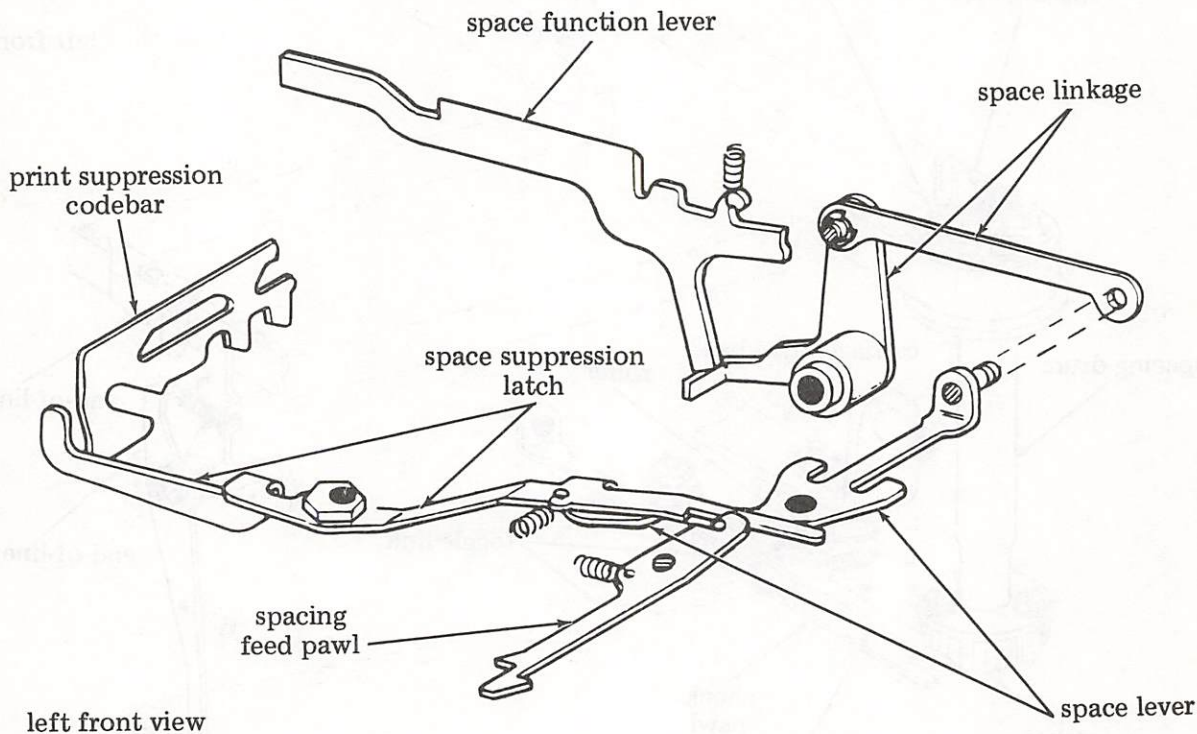

Figure 34 - Space Function and Space Suppression Mechanism
4.96 On every function except "space," spacing as well as printing must be suppressed (Figure 34). When a character to be printed is received, the print suppression codebar moves up and to the left. In doing so it pivots a space suppression latch so that it is moved to the right, out of the way of the toggle linkage. This permits the linkage to buckle and effect spacing.